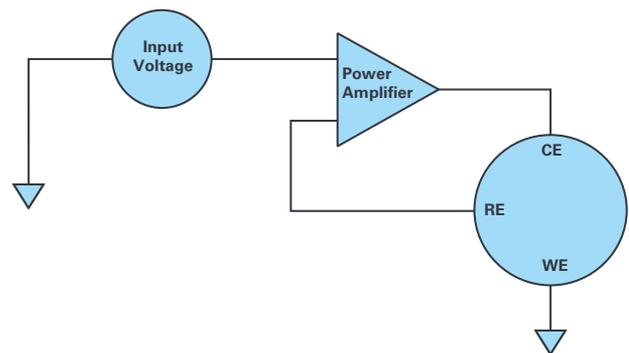

Figure 1. Measurement principle for a potentiostat measurement.
The most fundamental and commonly used measurement principle is based on a potentiostat. As shown in Figure 1, a potentiostat measures and controls the voltage between a working electrode (WE) and a reference electrode (RE). The potential of the WE is kept constant in relation to the reference electrode through adjustment of the current flowing through the counter, or auxiliary, electrode.